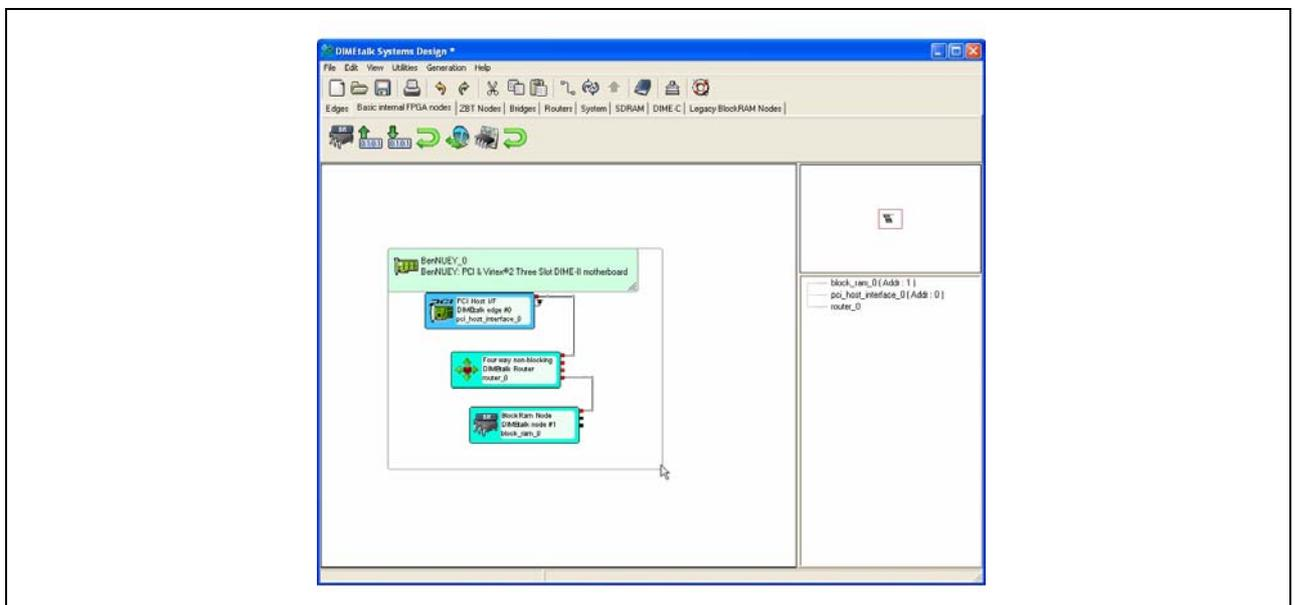

Figure 14: Resize BenNUEY-PCI Device
- Once the BenNUEY-PCI device is placed down on the network it should be resized by dragging the resize handle in the bottom right hand corner to cover all the components as shown in **Figure 14**. This informs DIMETalk that all these components are to be assigned to this device.